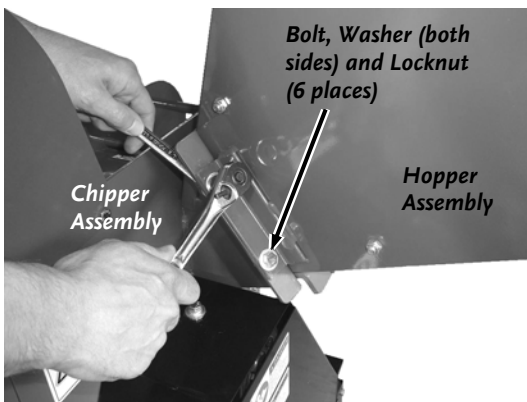

Figure 36
1. Have someone support the Hopper as you use two 1/2" wrenches to remove the six Bolts, Washers and Locknuts that support the Hopper to the Chipper Assembly (**Figure 36**).